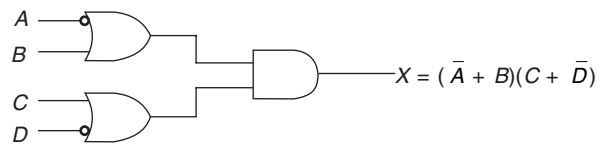

Fig. 5.50 Solution for Problem 19
19. OR gates feeding into AND gate. (See Fig. 5.50)